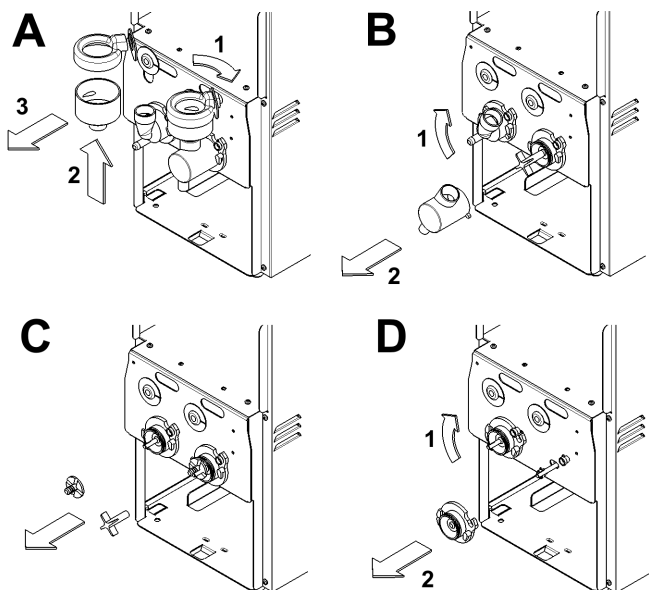

figure 6
- 5 Two dismantle the mixers proceed as follows (see figure 6):